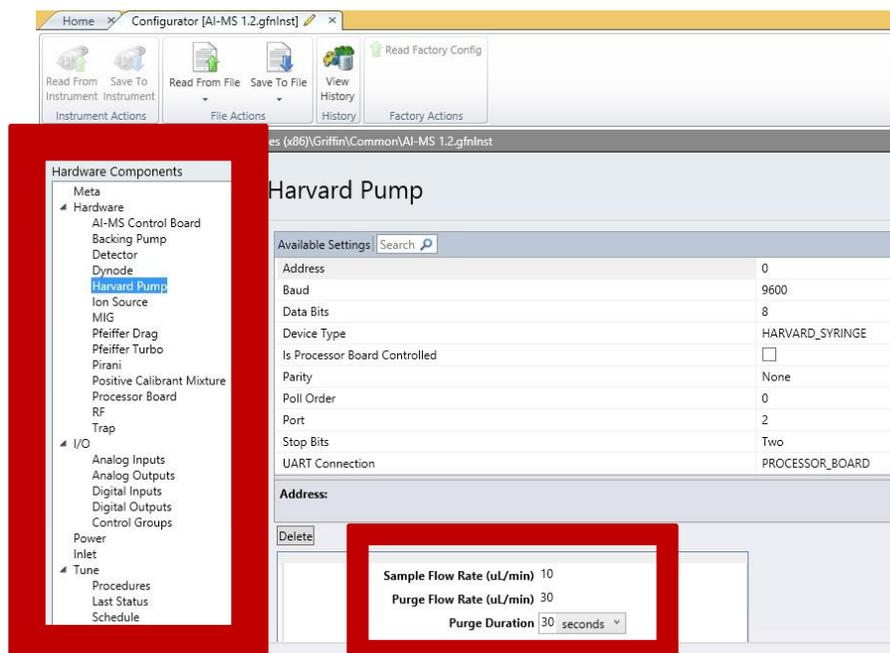

Figure 3.8 – Selecting “Harvard Pump” screen
4. To alter the flow rates for a particular ionization source, select “Harvard Pump” from the “Hardware Components” list on the left portion of the screen. After selecting the “Harvard Pump,” a box displaying “Sample Flow Rate (µL/min)” will appear in the bottom portion of the screen (Figure 3.8).